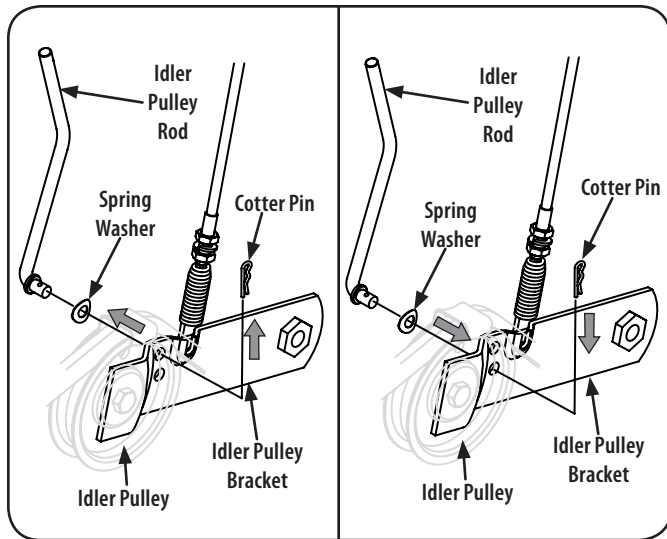

Figure 31
3. Remove the cotter pin and spring washer from the idler pulley rod. See Figure 31.